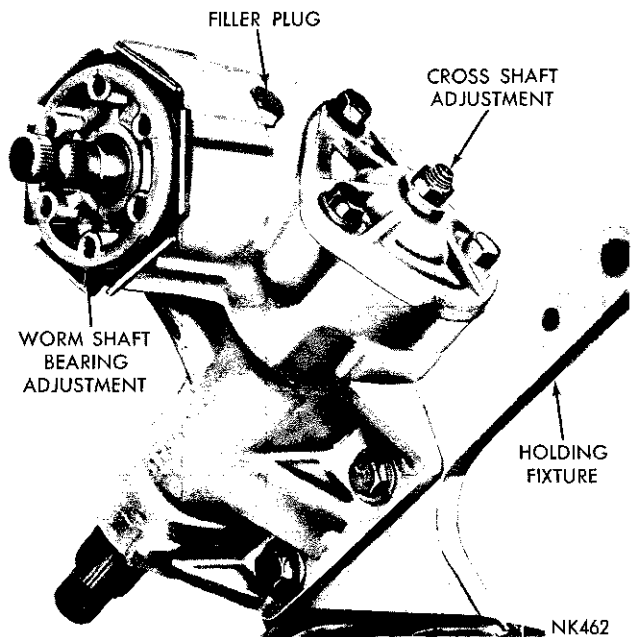

Fig. 2—Gear Adjustment Locations
Two adjustments are provided in the steering gear (Fig. 2). The worm-bearing pre-load adjustment, and the ball nut rack sector gear mesh adjustment.
(1) Attach the steering gear to holding fixture, Tool C-3323 and install holding fixture in a vise (Fig. 2).
(2) Loosen the cross shaft adjusting screw lock nut, and back out the screw about two turns to relieve the load caused by close mesh between the ball nut rack and sector gear teeth.